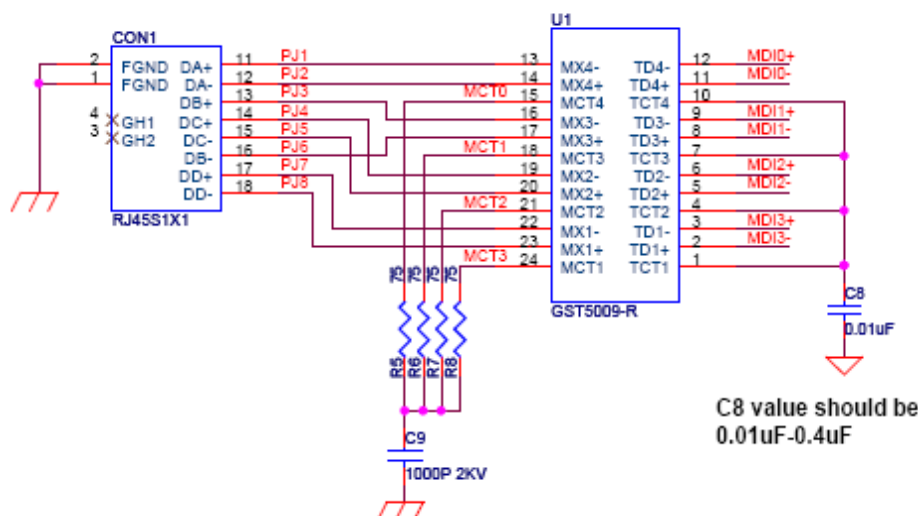

Figure 18. Separate Transformer
- When using a separate transformer, the center-tap MUST be aggregated (pins 10, 7, 4, 1) (C8 Value: 0.01 μ F~0.4 μ F) (see Figure 18)